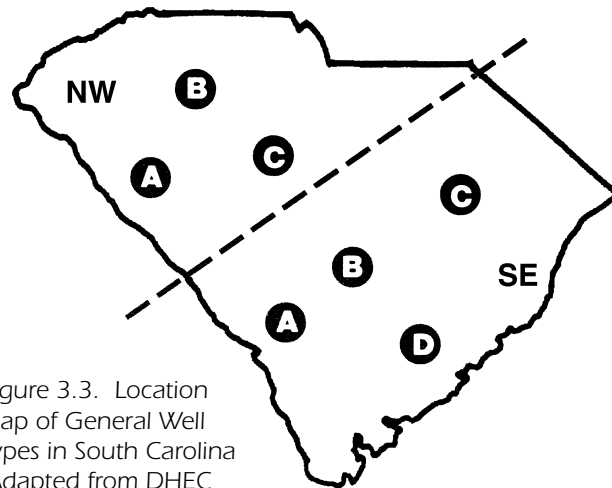

Figure 3.3. Location Map of General Well Types in South Carolina (Adapted from DHEC brochure, *Individual Water Supply Wells*.)
Four types of wells are typically found in South Carolina (see map, Figure 3.3). In the northwestern portion of South Carolina, (A)